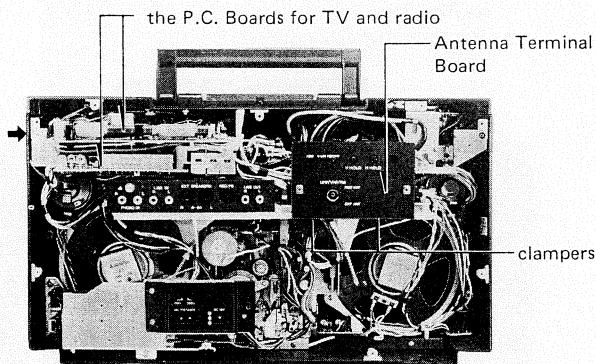

Fig. 5
4. Unfasten a screw indicated in Fig. 5 and pull out the printed circuit boards for TV and radio.